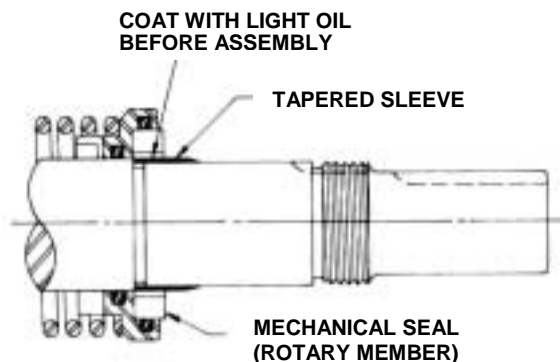

FIGURE 9
6. Place tapered installation sleeve on shaft, **Refer to Figure 9.** Sleeve is furnished with H, HL, K, KK, L, LQ and LL size replacement mechanical seals. Sleeve for Q and M size pumps may be purchased from Viking Pump at additional cost. Coat rotor shaft, tapered installation sleeve and inner diameter of mechanical seal rotary member with a generous amount of non-detergent SAE 30 weight oil. Petrolatum may be used but grease is not recommended.